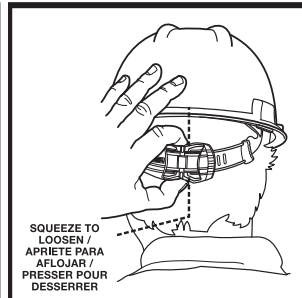

Figure 7
- For 1-Touch Suspensions, squeeze lock on nape strap to loosen, and squeeze finger tabs together to tighten (Figure 7 & 8).